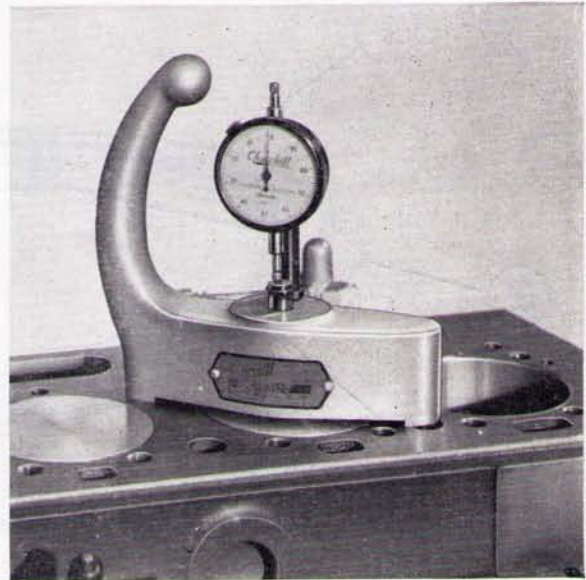

Fig. J.5.
2. Turn the crankshaft until the piston is at top dead centre and measure the distance between the top face of the cylinder block and the piston crown using the Piston Height Gauge. (See Fig. J.5).